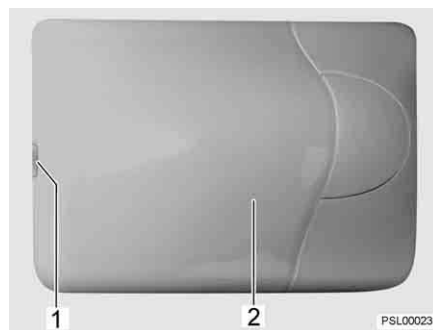

Fig. 75 Room lamp
- Use a suitable tool (e.g. a screwdriver) to carefully lever out the cover (Fig. 75,2) at the notch (Fig. 75,1) and remove it.